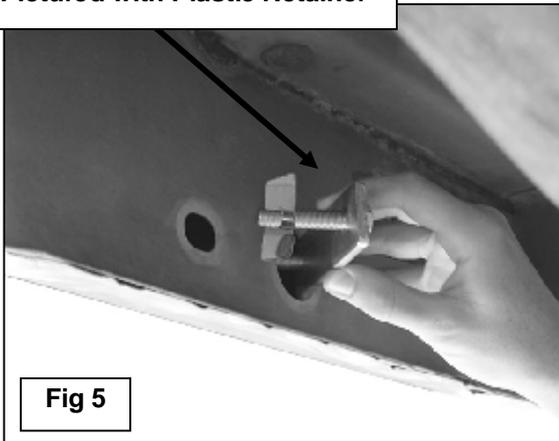

Fig 5
- Align the Mounting Bracket with holes in the pinch weld. Attach the Mounting Bracket to the pinch weld using the included (2) 8mm x 25mm Hex Bolts, (4) 8mm Flat Washers, (2) 8mm Lock Washers and (2) 8mm Hex Nuts. **NOTE:** Insert Bolt with Flat Washer from the outside-in. Do not tighten hardware at this time.
Note for 1997-98 3-Door models only: The 3-door model uses the included (1) 10mm Narrow Bolt Plate for driver side rear Bolt Plate installation. Thread (1) 10mm Plastic Retainer partially onto (1) threaded end on the Bolt Plate, (**Figure 5**). Insert the other